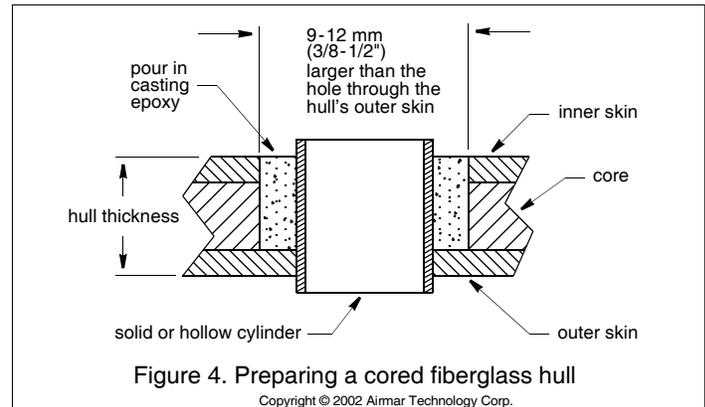

Figure 4. Preparing a cored fiberglass hull
- Using a 51 mm or 2" hole saw, cut the hole from outside the hull through the *outer* skin only (see Figure 4).